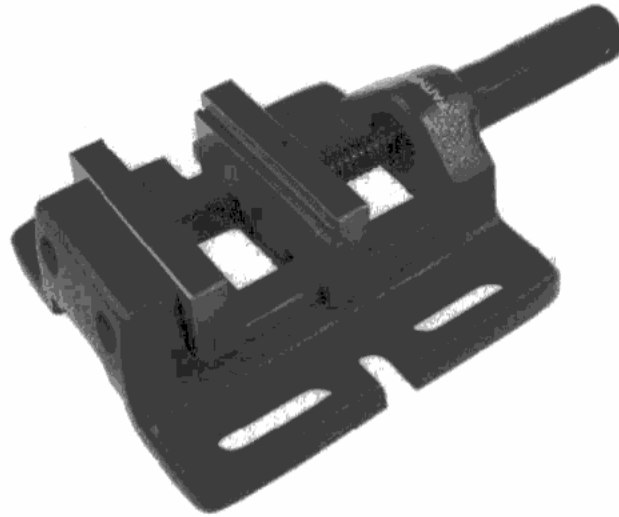

Figure 4
- 6 Figure 4 shows one of a batch of machine vices, the body of which has been manufactured using sand casting.